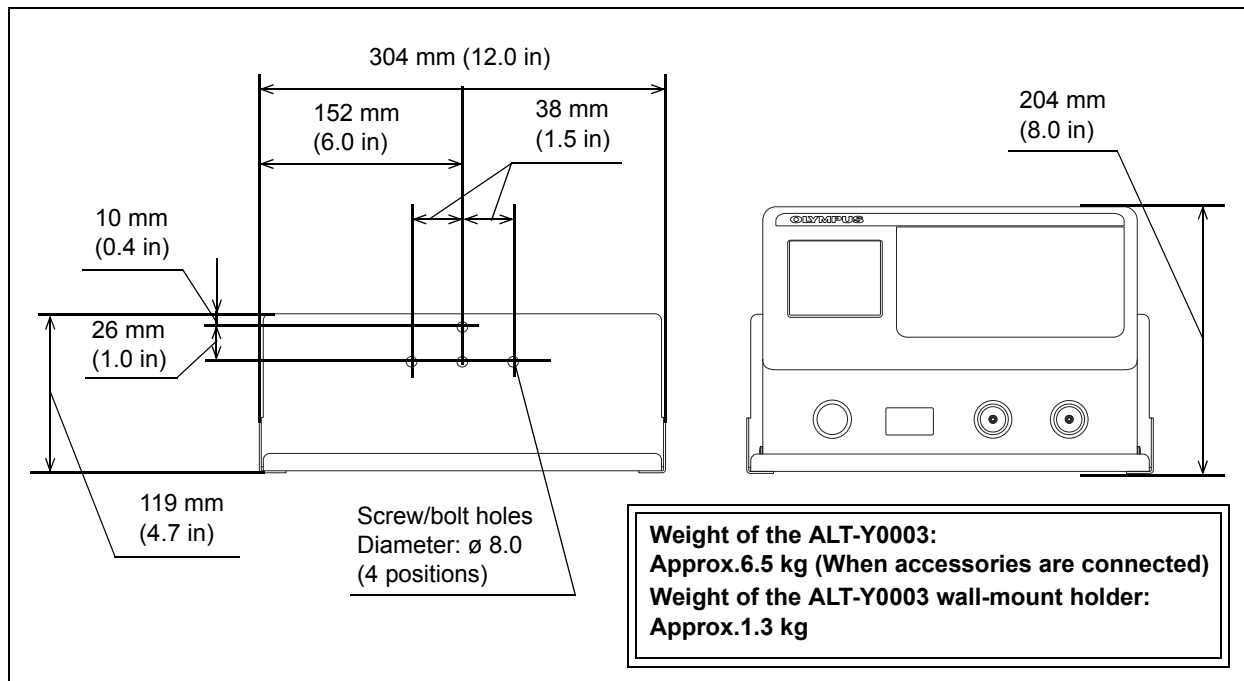

Figure 3.1
- The wall should be strong enough to hold the weights of the ALT-Y0003 wall-mount holder and this equipment. (See Figure 3.1, the dimensional drawing)
Referring to the drawings of Figure 3.1 showing the dimensions of the installation location of the ALT-Y0003 wall-mount holder, make sure the strength of the wall surface of the four installation positions. If the strength of the installation is insufficient, add some reinforcement. Otherwise, the ALT-Y0003 wall-mount holder may drop, breaking the wall or injuring the operator.
- Referring to the drawings of Figure 3.1 showing the dimensions and weight of the ALT-Y0003 wall-mount holder, make sure the strength of the wall surface of the four installation positions. If the strength is insufficient, add reinforcement.
- Hold the ALT-Y0003 wall-mount holder in the direction as shown in Figure 3.1, align the holder with the mounting holes, and secure it with screws or nuts. The screw or nuts to be used for installation should be commercially available and equivalent to “6 mm nominal diameter of nut or bolt,” which is suited to the material of the wall.